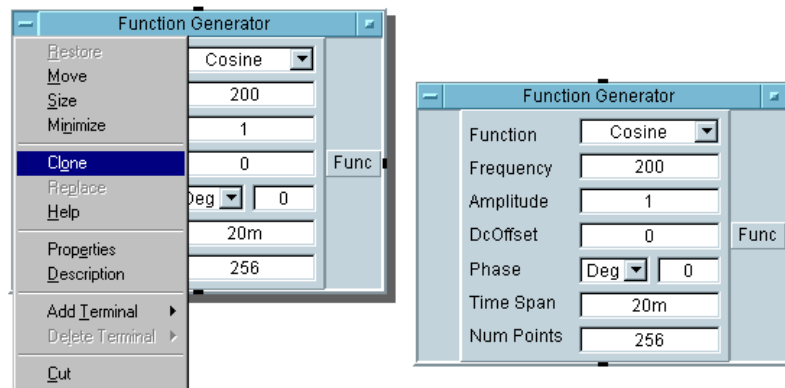

Figure 1-10. Cloning an Object
2. Move the outline to the desired location, and click to place the object. The cloned object appears, while the original object remains. In Figure 1-10, the Function Generator has already been cloned once, and the object menu has the command selected to clone it again.